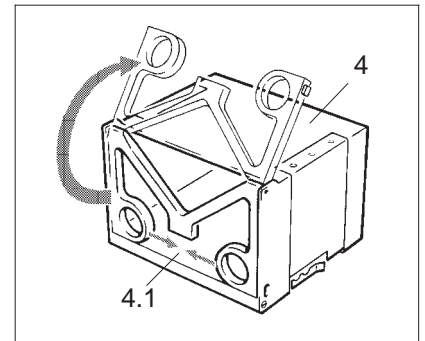

Fig. 4-9: Loading the magazine
- Press together specs (4.1) in magazine (4) (Fig. 4-9).